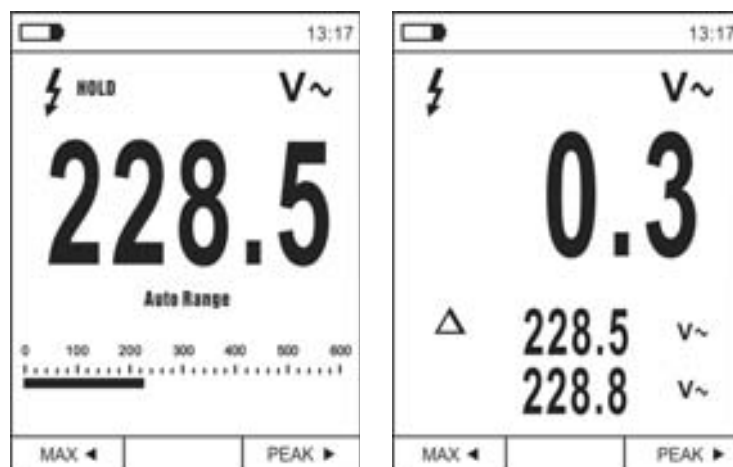

Fig. 8: Relative measurement
1. Long press key **HOLD/REL** to enter relative measurement (see Fig. 8 – right side). The instrument zeroes the display and saves the displayed value as a reference value which subsequent measurements will be referred to. Symbol “Δ” appears on the display. Functions “MAX/MIN” and “PEAK” are not active in this mode.